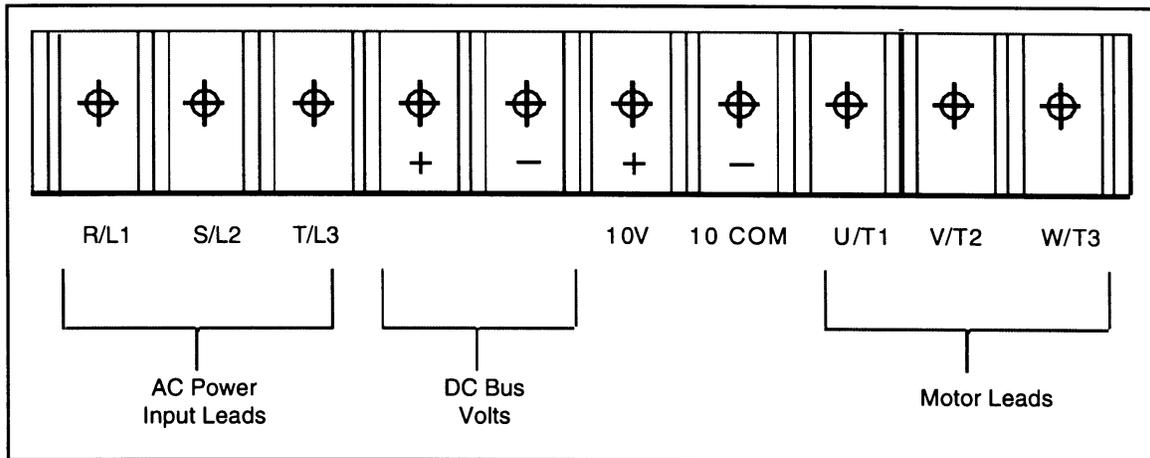

Figure 2.6 – DC Bus Voltage Terminals (1 to 20 HP @ 230V)
- ii. Use a voltmeter to measure the DC bus potential at the DC bus power terminals shown in figure 2.6.